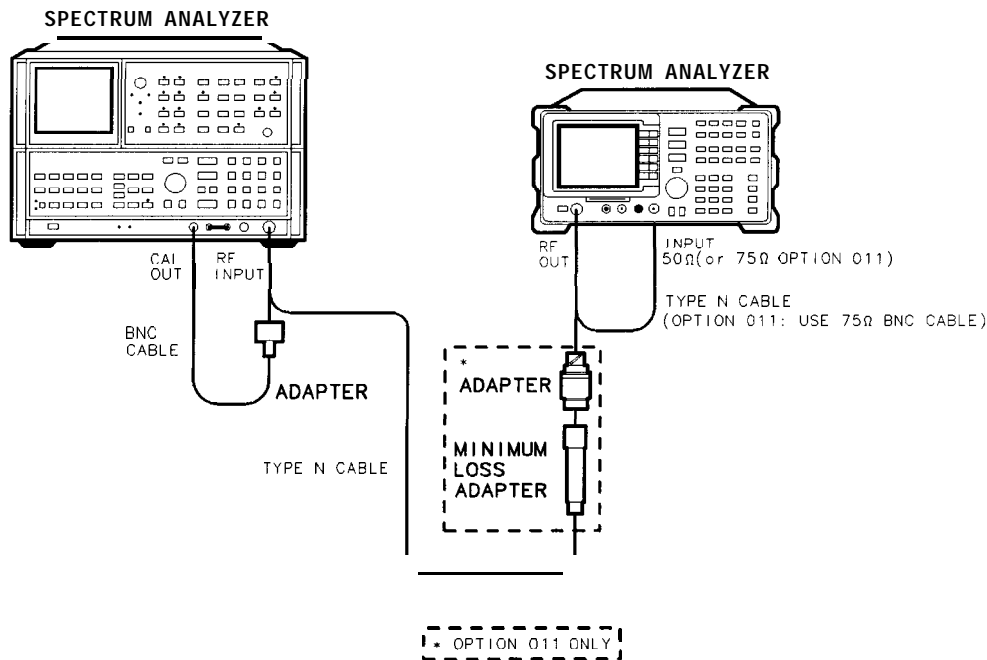

Figure 1-27. Harmonic Spurious Outputs Test Setup
1. Connect the Type N cable between the RF OUT 50 Ω and INPUT 50 Ω connectors on the spectrum analyzer. See Figure 1-27.
7. Connect the Type N cable from the tracking generator output to the microwave spectrum analyzer RF INPUT. See Figure 1-27.